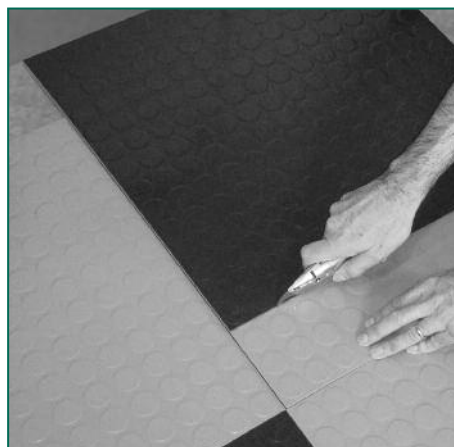

Figure 21 Measuring using an overlapping tile
B. Place another full tile on top of the tile to be cut, with its "top edge" against the wall (Figure 21).